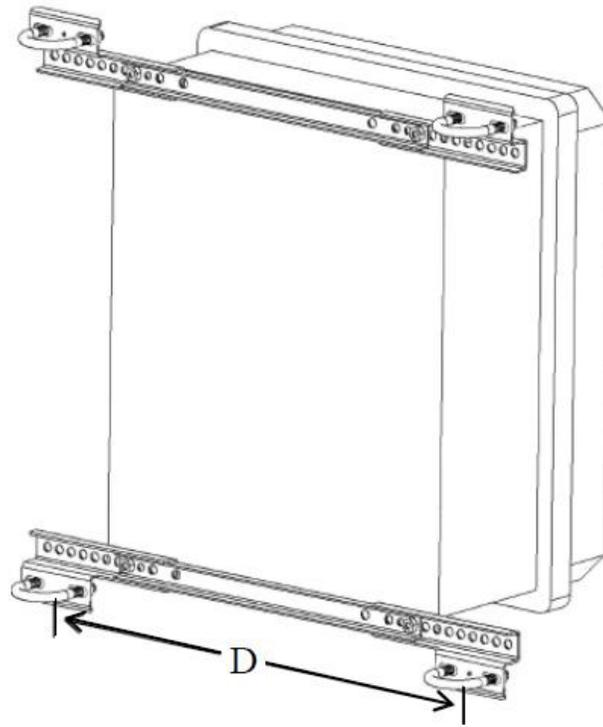

Figure 7-4. Enclosure brackets configured for a tower mount.
The tower mount option is used to attach our enclosures to UT930, UT920, and ATW towers. An enclosure ordered with the tower mount option will be shipped with a three-piece bracket for fitting to the top of the enclosure and an identical three-piece bracket for fitting to the bottom of the enclosure. This mounting bracket option uses the same three-piece bracket as the mast mount option, except the pieces are rearranged so that the flanges are on the side of the bracket instead of in the middle. For the UT930 the distance between the centres of each flange needs to be 43 cm (see Figures 7-4, 7-5 and 7-6), if mounted on the lowest section of the tower. For other towers adjust accordingly.
2. Slide out the flange sections so that the distance between the centres of each flange is 43 cm (see Figure 7-4).